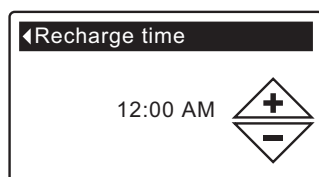

FIG. 41
5. Press the SELECT (O) button to display the Recharge time screen (See Figure 41).